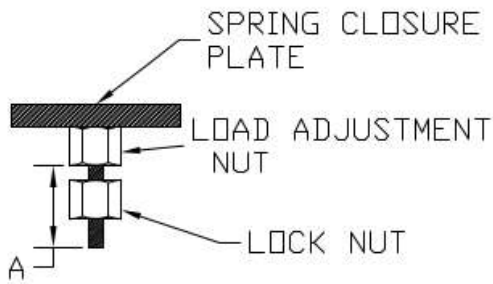

Figure 17C
3. Backup the lock nut from the load adjustment nut located on the spring rod. Measure the distance between the edge of the spring rod and the outer surface of the load adjustment nut, marked "A" in figure 17C (page 18).